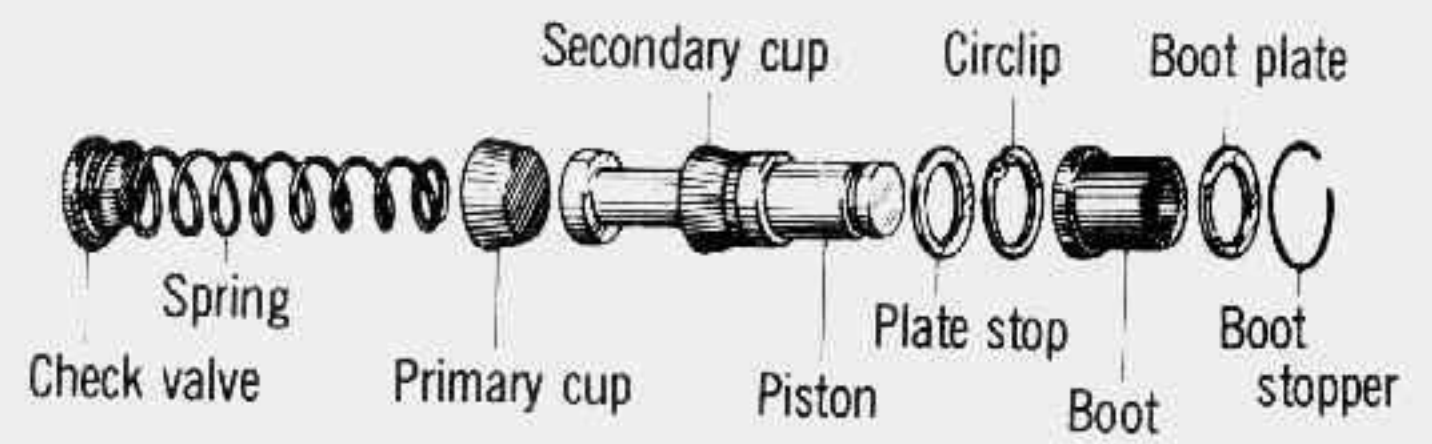

Fig. 8-2-18.
- a) Do not confuse the directions of assembling the primary cup. (Refer to Fig. 8-2-18).